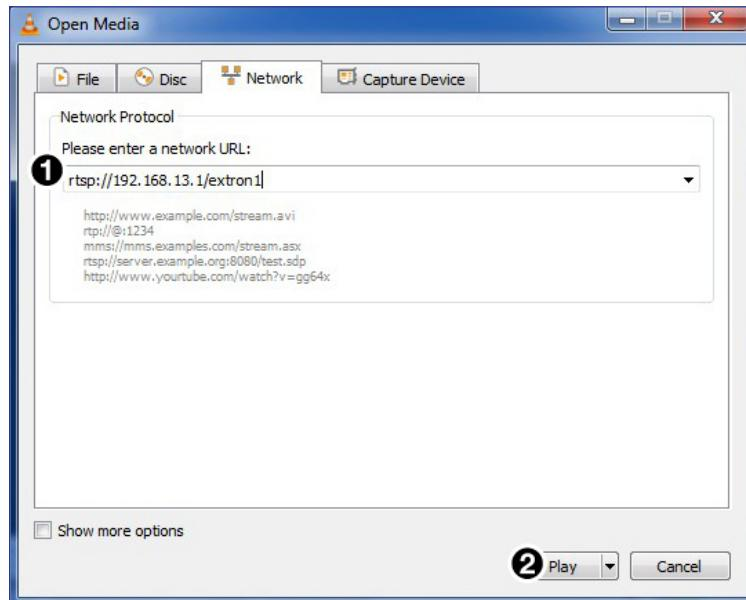

Figure 102. Enter Stream URL Information and Play
5. The Open Network Media dialog box opens. Using the stream URL that was noted in step 2 on the previous page (`rtsp://192.168.13.1/extron1`), enter it into the **Please enter a network URL:** field (see figure 102, ①).